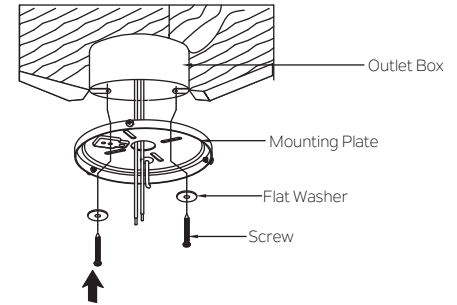

Fig. 5
Step 1. Before attaching fan to outlet box (not included), ensure the outlet box is securely fastened to at least two points to a structural ceiling member (a loose box will cause the fan to wobble). Pass the 120 volt supply wires from the ceiling outlet box through the center of the ceiling mounting plate. Install mounting plate to outlet box in ceiling using the screws and washers included with the outlet box or screws and washers in the hardware bag. (Fig. 5)